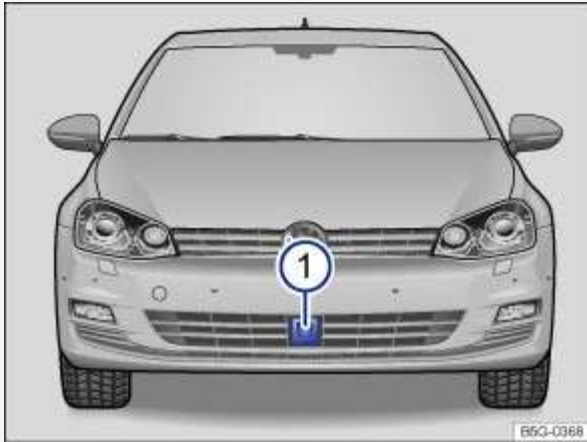

Fig. 165 In the front bumper: Radar sensor.
A radar sensor mounted in the front bumper monitors traffic ⇒ Fig. 165^① and can detect vehicles traveling ahead up to a distance of about 130 yards (120 m).